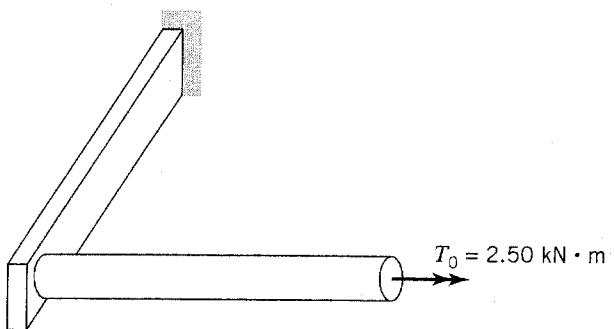

FIGURE P5.51
- 5.51.** A structure (Figure P5.51) is made by welding a circular cross section steel shaft ($E = 200 \text{ GPa}$ and $G = 77.5 \text{ GPa}$), of length 1.2 m and diameter 60 mm, to a rectangular cross section steel beam of length 1.5 m and cross-section dimensions 70 mm by 30 mm. A torque $T_0 = 2.50 \text{ kN} \cdot \text{m}$ is applied to the free end of the shaft as shown. Determine the rotation of the free end of the shaft.